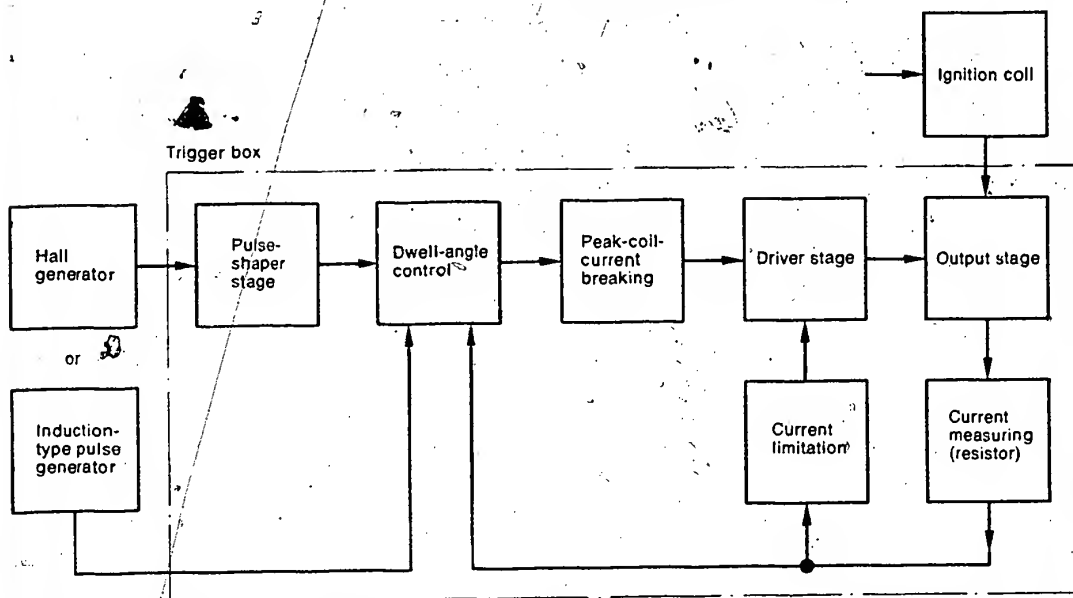

Fig. 6 Block diagram of trigger box with Hall generator or induction-type pulse generator
4. Description of operation (see Figs. 6 ... 9)